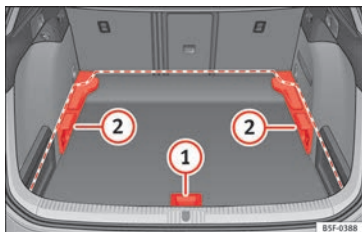
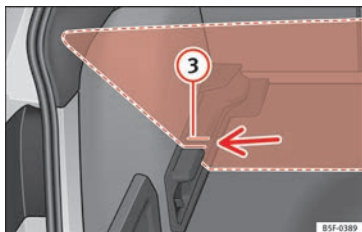

Fig. 185 Luggage compartment variable floor: positions.
Fig. 186 Luggage compartment variable floor: grooves tilted.
- Lift the floor using handle »» **Fig. 185 ①** and pull it back until the front of the floor has fully passed the supports **②**.
- Move the floor forward over the supports as far as the rear seat backrest and then lower the floor with the handle **①**.
- Now match the front part with the lower grooves of the supports and slide the floor forwards as far as the rear seat backrest and lower the floor at the same time with the handle **①**.
- Lift the variable floor using handle »» **Fig. 185 ①** and pull it back until the front of the floor has fully passed the tilted grooves »» **Fig. 186 ③**.
- Run the floor through these grooves with the help of handle **①** as the rear seat backrest and until the floor is resting in the grooves.